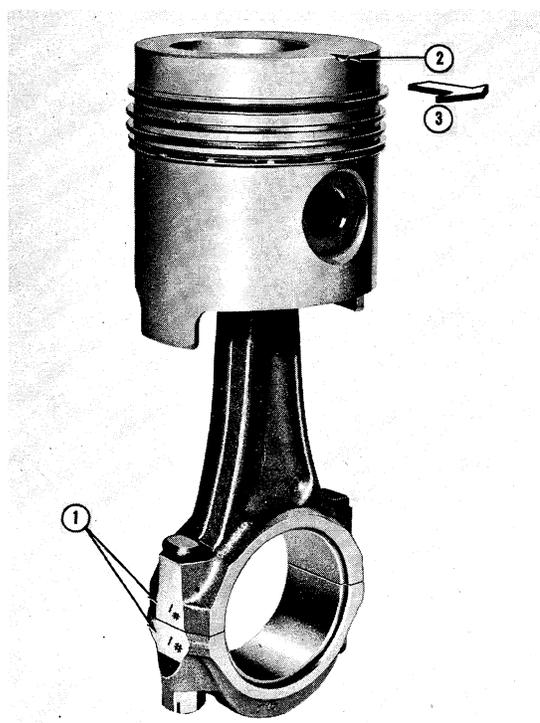

Figure 39
3. Assemble the piston to the connecting rod with the notch on the piston crown in line with the pip on the connecting rod, Figure 39, and install the piston pin and pin retainers (snap rings).